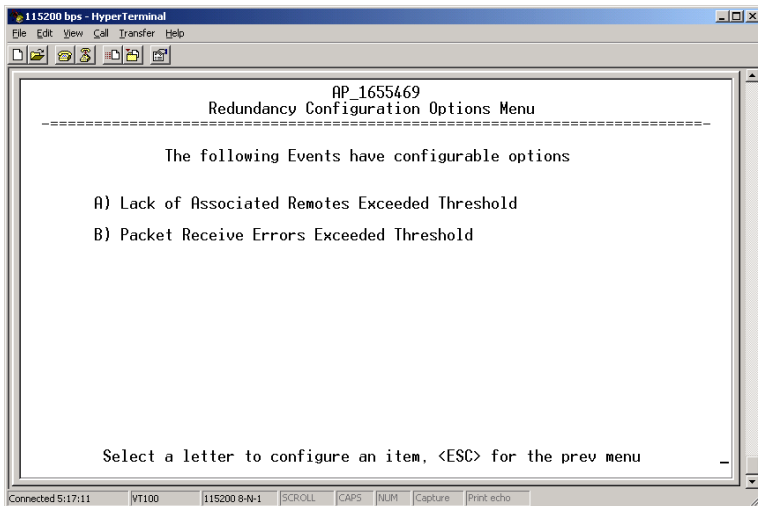

Figure 3-64. Redundancy Configuration Options Menu
- ⌘ **Redundancy Configuration Options** This selection opens a submenu (Figure 3-64 on Page 96) where you can set the threshold criteria for declaring an error event.
Use this menu (Figure 3-64) to set the thresholds for the Lack of Associated Remotes and Packet Receive Errors. Selecting either item opens a submenu where you can view or change settings.